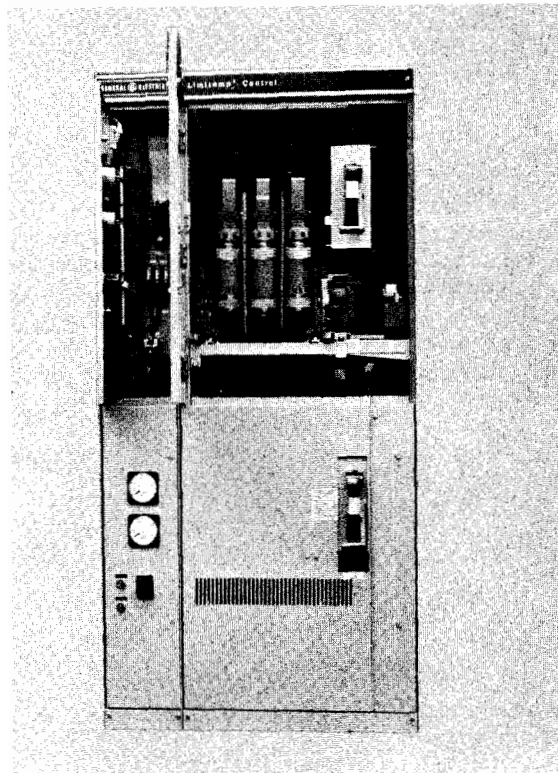
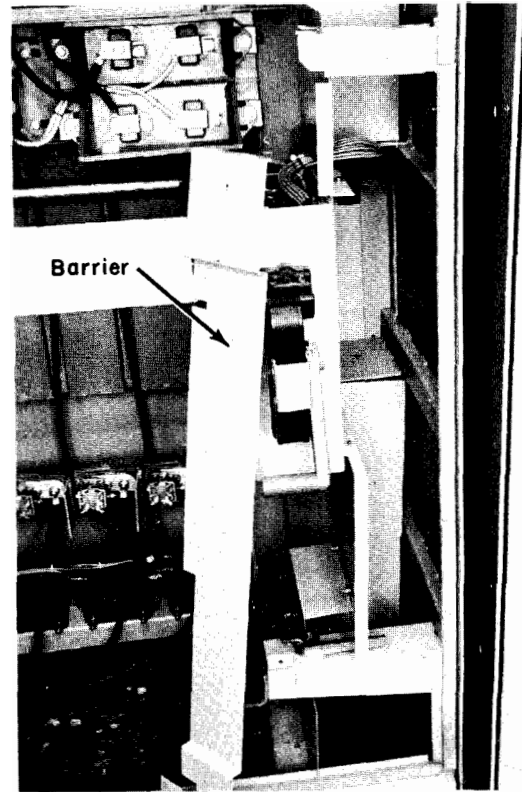

Fig. 32. Two-high enclosure with top high-voltage door open.
Fig. 42. Front view of right-hand side bottom with front barrier removed.
12. Remove the right-side barrier (Fig. 42).
After the equipment has been set in place where it will be permanently connected, some internal disassembly is required to make the necessary external power-cable and control-wire connections. Disassembly should be done in a definite sequence by following Fig. 32 through Fig. 42, and as described below:
2. Open the high-voltage door (Fig. 32).